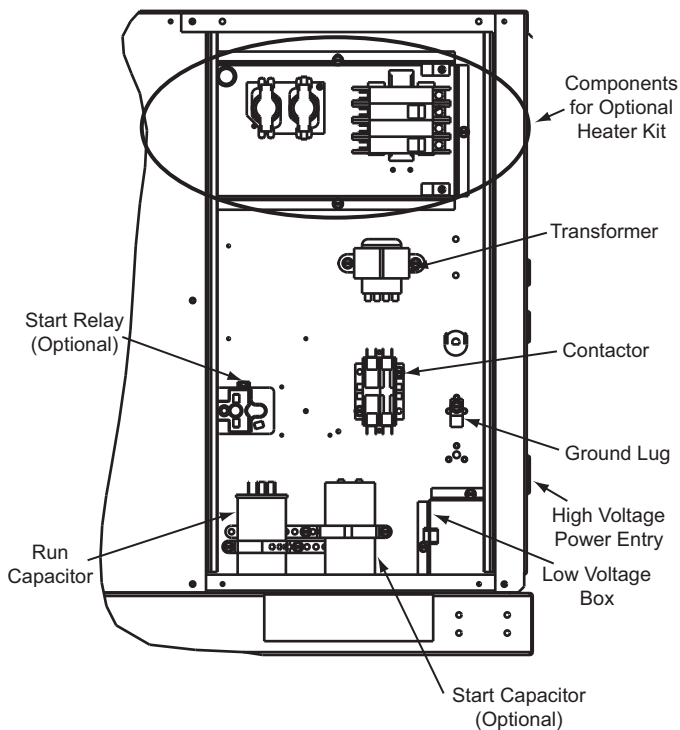

Figure 10: Unit Component Location
2. For single phase units - Connect one supply wire to L1 on the contactor, and the other supply wire to L2 on the contactor. Connect ground wire to ground lug in control box. See Figure 10.